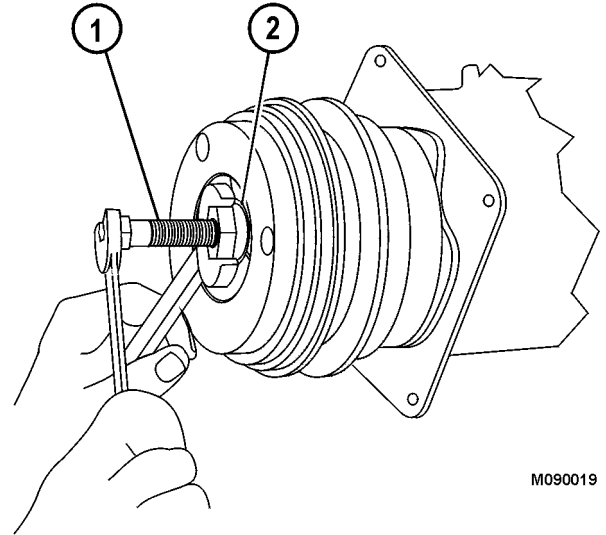

FIGURE 4-21.
3. Thread drive plate installer (1, Figure 4-21) onto the shaft of the compressor. Spacer (2) should be in place under the hex nut on the tool.